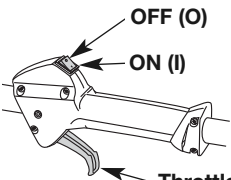

Fig. 7
NOTE: There is no need to turn the unit on. The On/Off Control is in the ON (I) position at all times (Fig. 7).
- Press and hold the On/Off Control switch in the **OFF (O)** position until the unit comes to a complete stop (Fig. 7).
- NOTE:** There is no need to turn the unit on. The On/Off Control is in the ON (I) position at all times (Fig. 7).